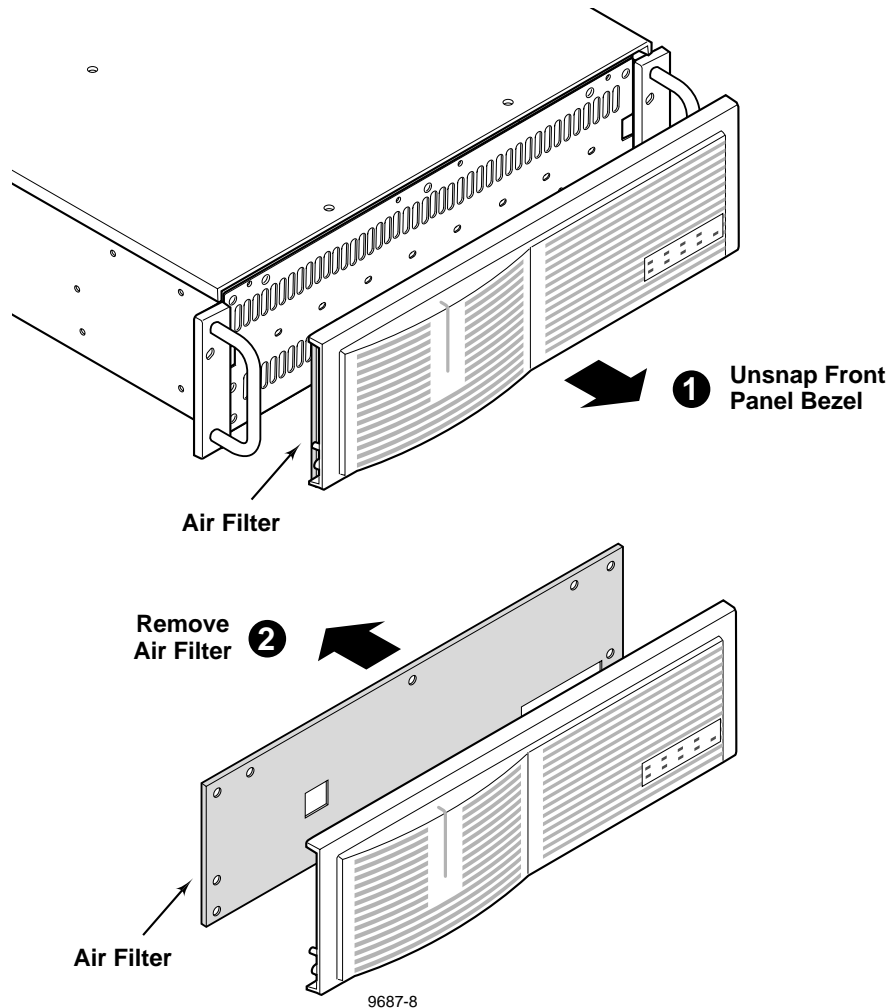

Figure 3-1. PRX208 Air Filter Removal
In a humid environment, the air filter behind the front bezel of the PDX208 will usually require more frequent attention than in a dryer environment. Figure 3-1 shows the location of the filter which requires removal of the front bezel. To remove the air filter for cleaning or replacement, refer to Figure 3-1, and proceed as follows:
4. Attach the filter to the bezel as shown in Figure 3-1.
1. Unsnap the front panel bezel by firmly pulling away from the front panel (Figure 3-1).
4. Position the front panel bezel mounting posts over the holes in the front panel and press firmly until the bezel snaps back in place (Figure 3-1).